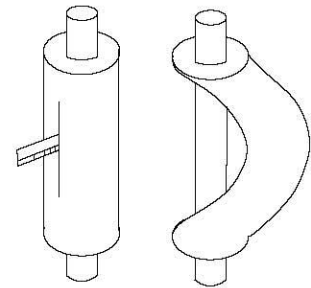

Fig. 4.3
(4) In case that direct bending will open cracks to the pipe, first use sharp cutter to cut the insulating layer, as shown in Fig. 4.3. Do not bend the pipe until it is exposed. When bending is done, wrap the pipe with insulating layer and then secure it with adhesive tape.